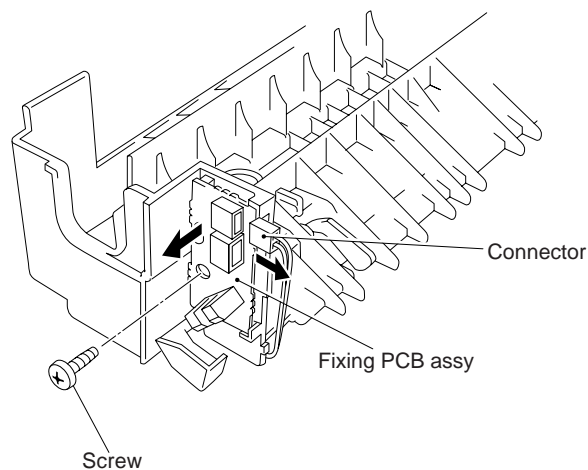

Figure 4.51
- (5) Loosen 4 screws and remove the thermistor lead wire connector (2P) of the fixing PCB (see Figure 4.51), and remove the fixing unit cover by detaching the wire from the hooks of the fixing unit chassis.